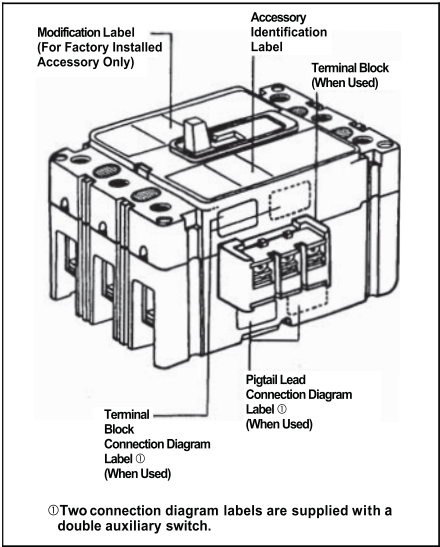

Fig. 2-7. Preferred Mounting Locations for Accessory Nameplate Labels.
- 2-8. Place labels supplied with kit on circuit breaker. (See Fig. 2-7.)